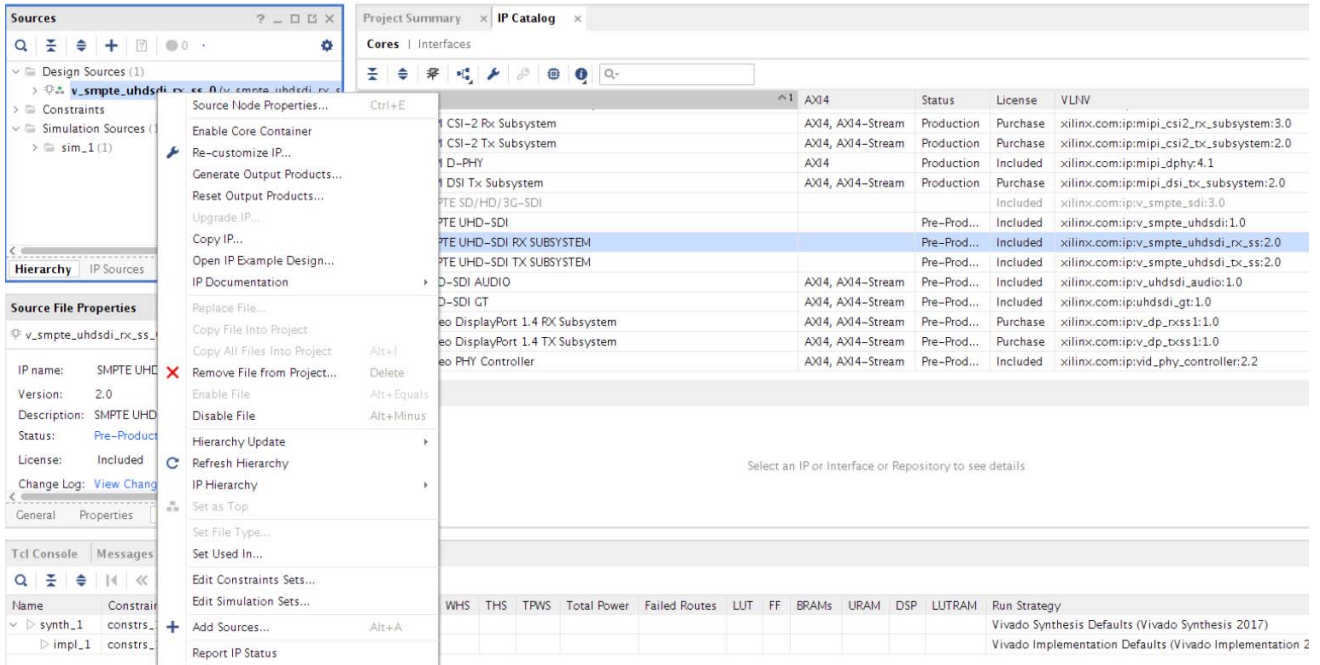

Figure 5-37: Open the IP Example Design
- Right-click the **SMPTE UHD-SDI RX Subsystem** component under Design source, and select **Open IP Example Design**, as shown in Figure 5-37.